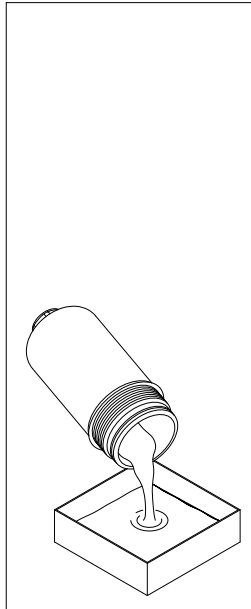

fig. 17
- (Fig. 17) Empty the operating fluid from the bowl into the collection vessel